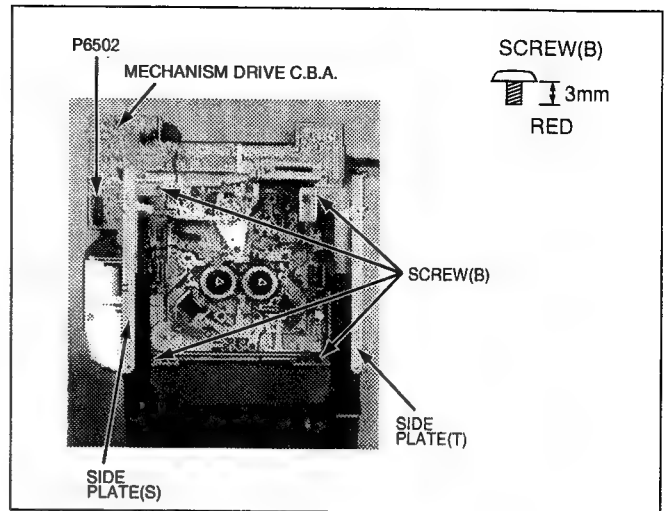

Fig. T-3
- Fig. T-3 Unscrew 4 screws (B) and disconnect P6502 when Mechanism Drive C.B.A. is connected to Mechanism Unit.